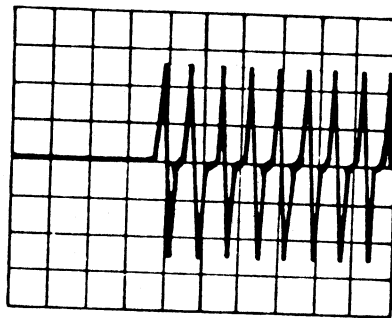

Figure 4-4. Circumferential/Azimuth Alignment Waveform
- f. Measure the time between the leading edge of the index pulse and the first peak of the index alignment burst (see Figure 4-4). The time should be in the range of 100 to 300 usec. Note the value and proceed to step g.